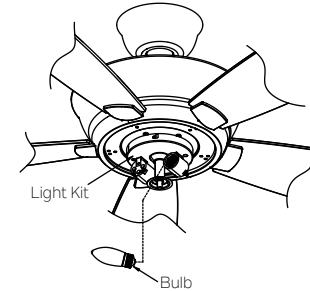

Fig. 24
Step 1. Install the 2, 5 Watt lamps (provided) into each socket on the light kit. (Fig. 24)